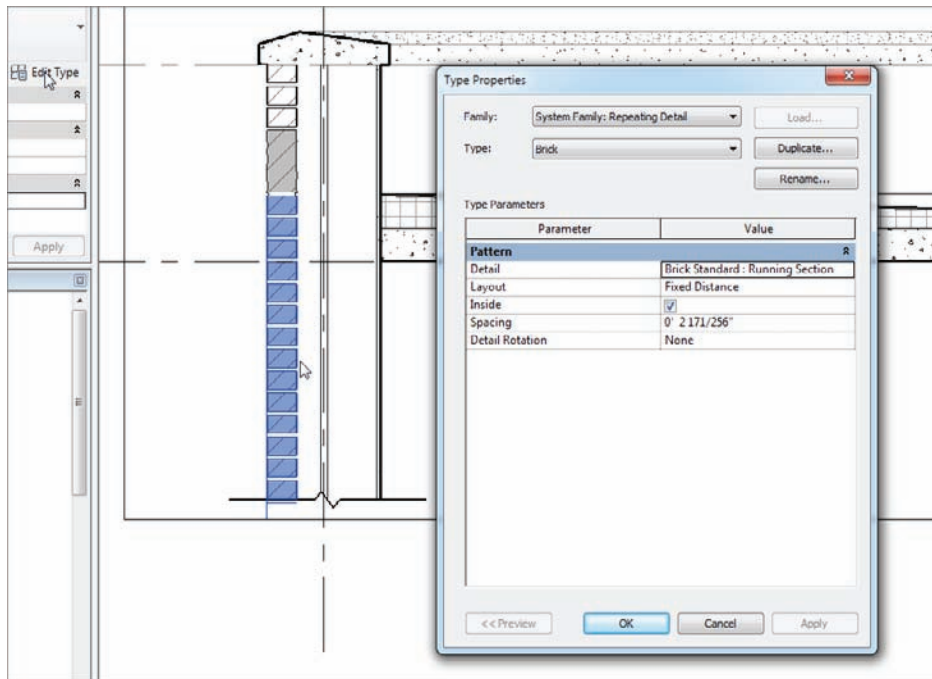

FIGURE 12.33 Click the Edit Type button after selecting one of the brick repeating details.
2. Select one of the repeating details, as shown in Figure 12.33.
3. In the Properties dialog, click Edit Type, as shown at upper left in Figure 12.33.